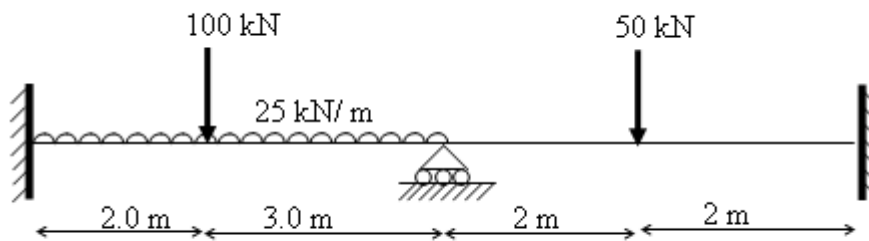

Figure 2:
8. A continuous beam supported and loaded as shown in figure 2. Draw the shear force and bending moment diagrams if the middle support sinks by 2.5 mm per kN load. [15]